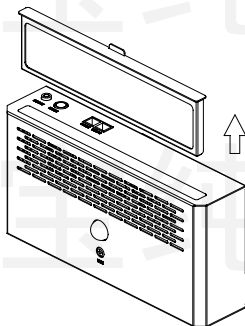

Figure 4.8 Filter maintenance diagram
- 1) Lift up the filter bracket from the top of the sterilizer, as shown in Figure 4.8;